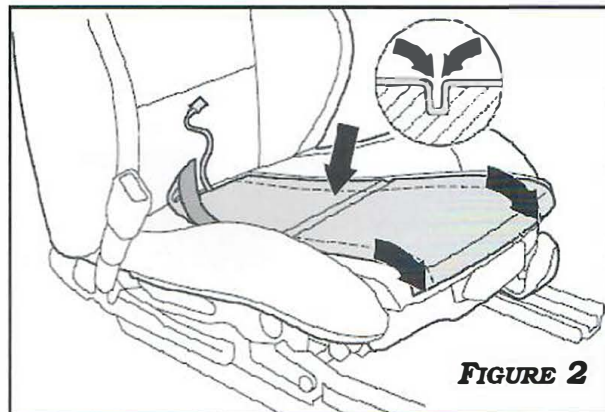

FIGURE 2
1. PLACE HEATING ELEMENT ON SEAT CUSHION TAPE SIDE DOWN, WITH HARNESS TOWARD SEAT BACK. IF THE SEAT HAS A CENTER LISTING OR LISTINGS, FORM THE ELEMENT INTO THE LISTING(S) VALLEY(S). **FIGURE 2.**